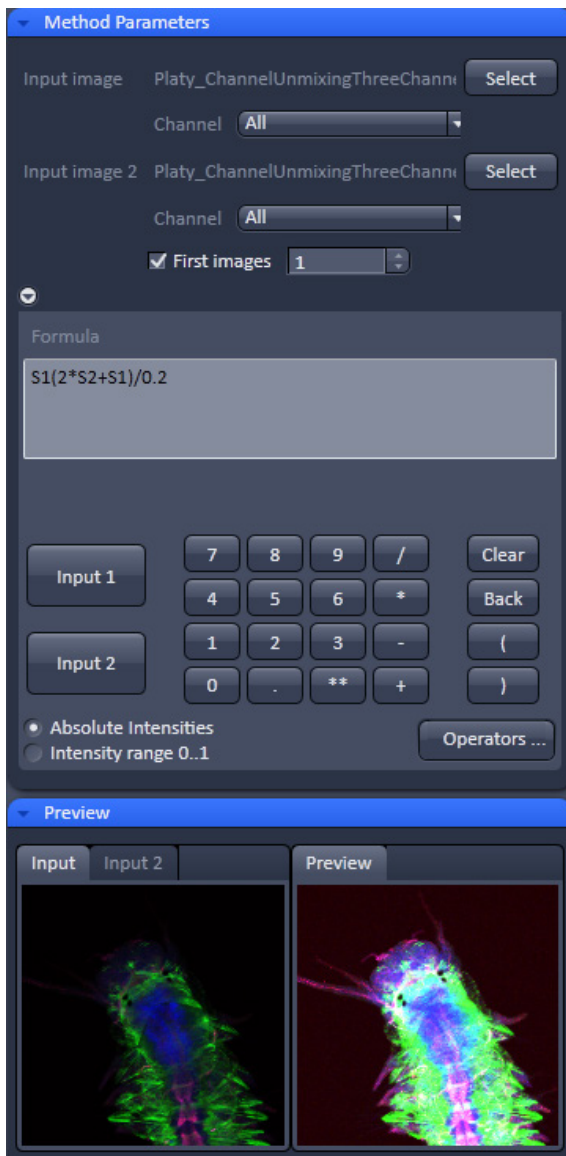

Fig. 380 Processing – Image calculator
- Click on the triangle buttons to show or hide the **Method Parameters** and **Preview** panels (Fig. 380) of the function.
For an overview of the available more advanced operators, please refer to the formula panel that is shown in a pop-up window after clicking the **Operators...** button (Fig. 380).